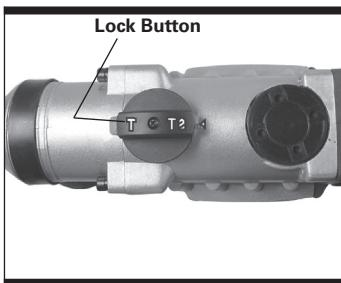

Fig 7
1. Adjust the dial selector to position “ $\text{A} \text{ T}$ ” to provide rotation of the chuck (see Fig7)